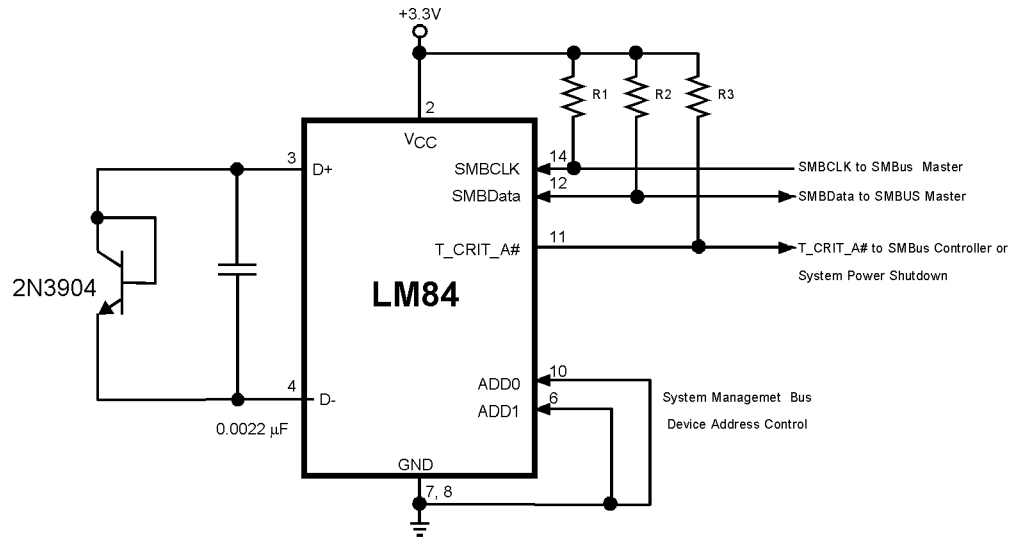

FIGURE 6. Recommended Diode Trace Layout
3. Diode traces should be surrounded by a GND guard ring to either side, above and below if possible. This GND guard should not be between the D+ and D- lines. In the event that noise does couple to the diode lines it would be ideal if it is coupled common mode. That is equally to the D+ and D- lines. (See Figure 6)